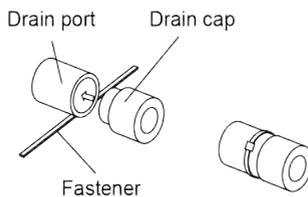

Fig. 4.24
- (7). When the unit is shipped from the factory, the drain port is defaulted to be the one on the left side (electric box side); the port on right side has been plugged.
- (8). When using the drain port on the right side of the unit, reinstall the drain cap to the left side drain port (Fig. 4.24).